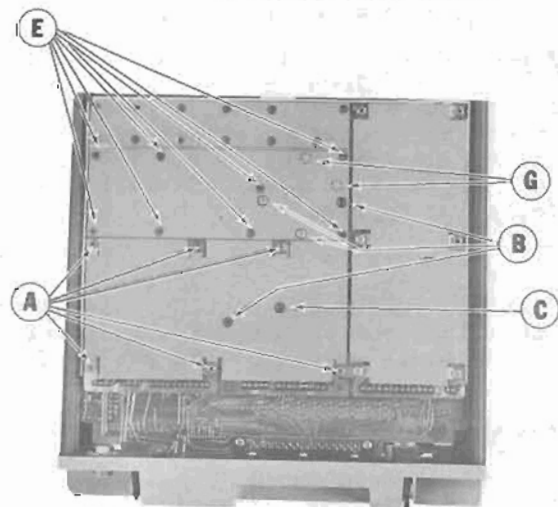

Figure 5 Disassembly Procedure (Bottom View)
3. To gain access to the bottom of the Osc/Mult and IFAS board, remove the six screws A holding the receiver bottom cover (see Figure 5).